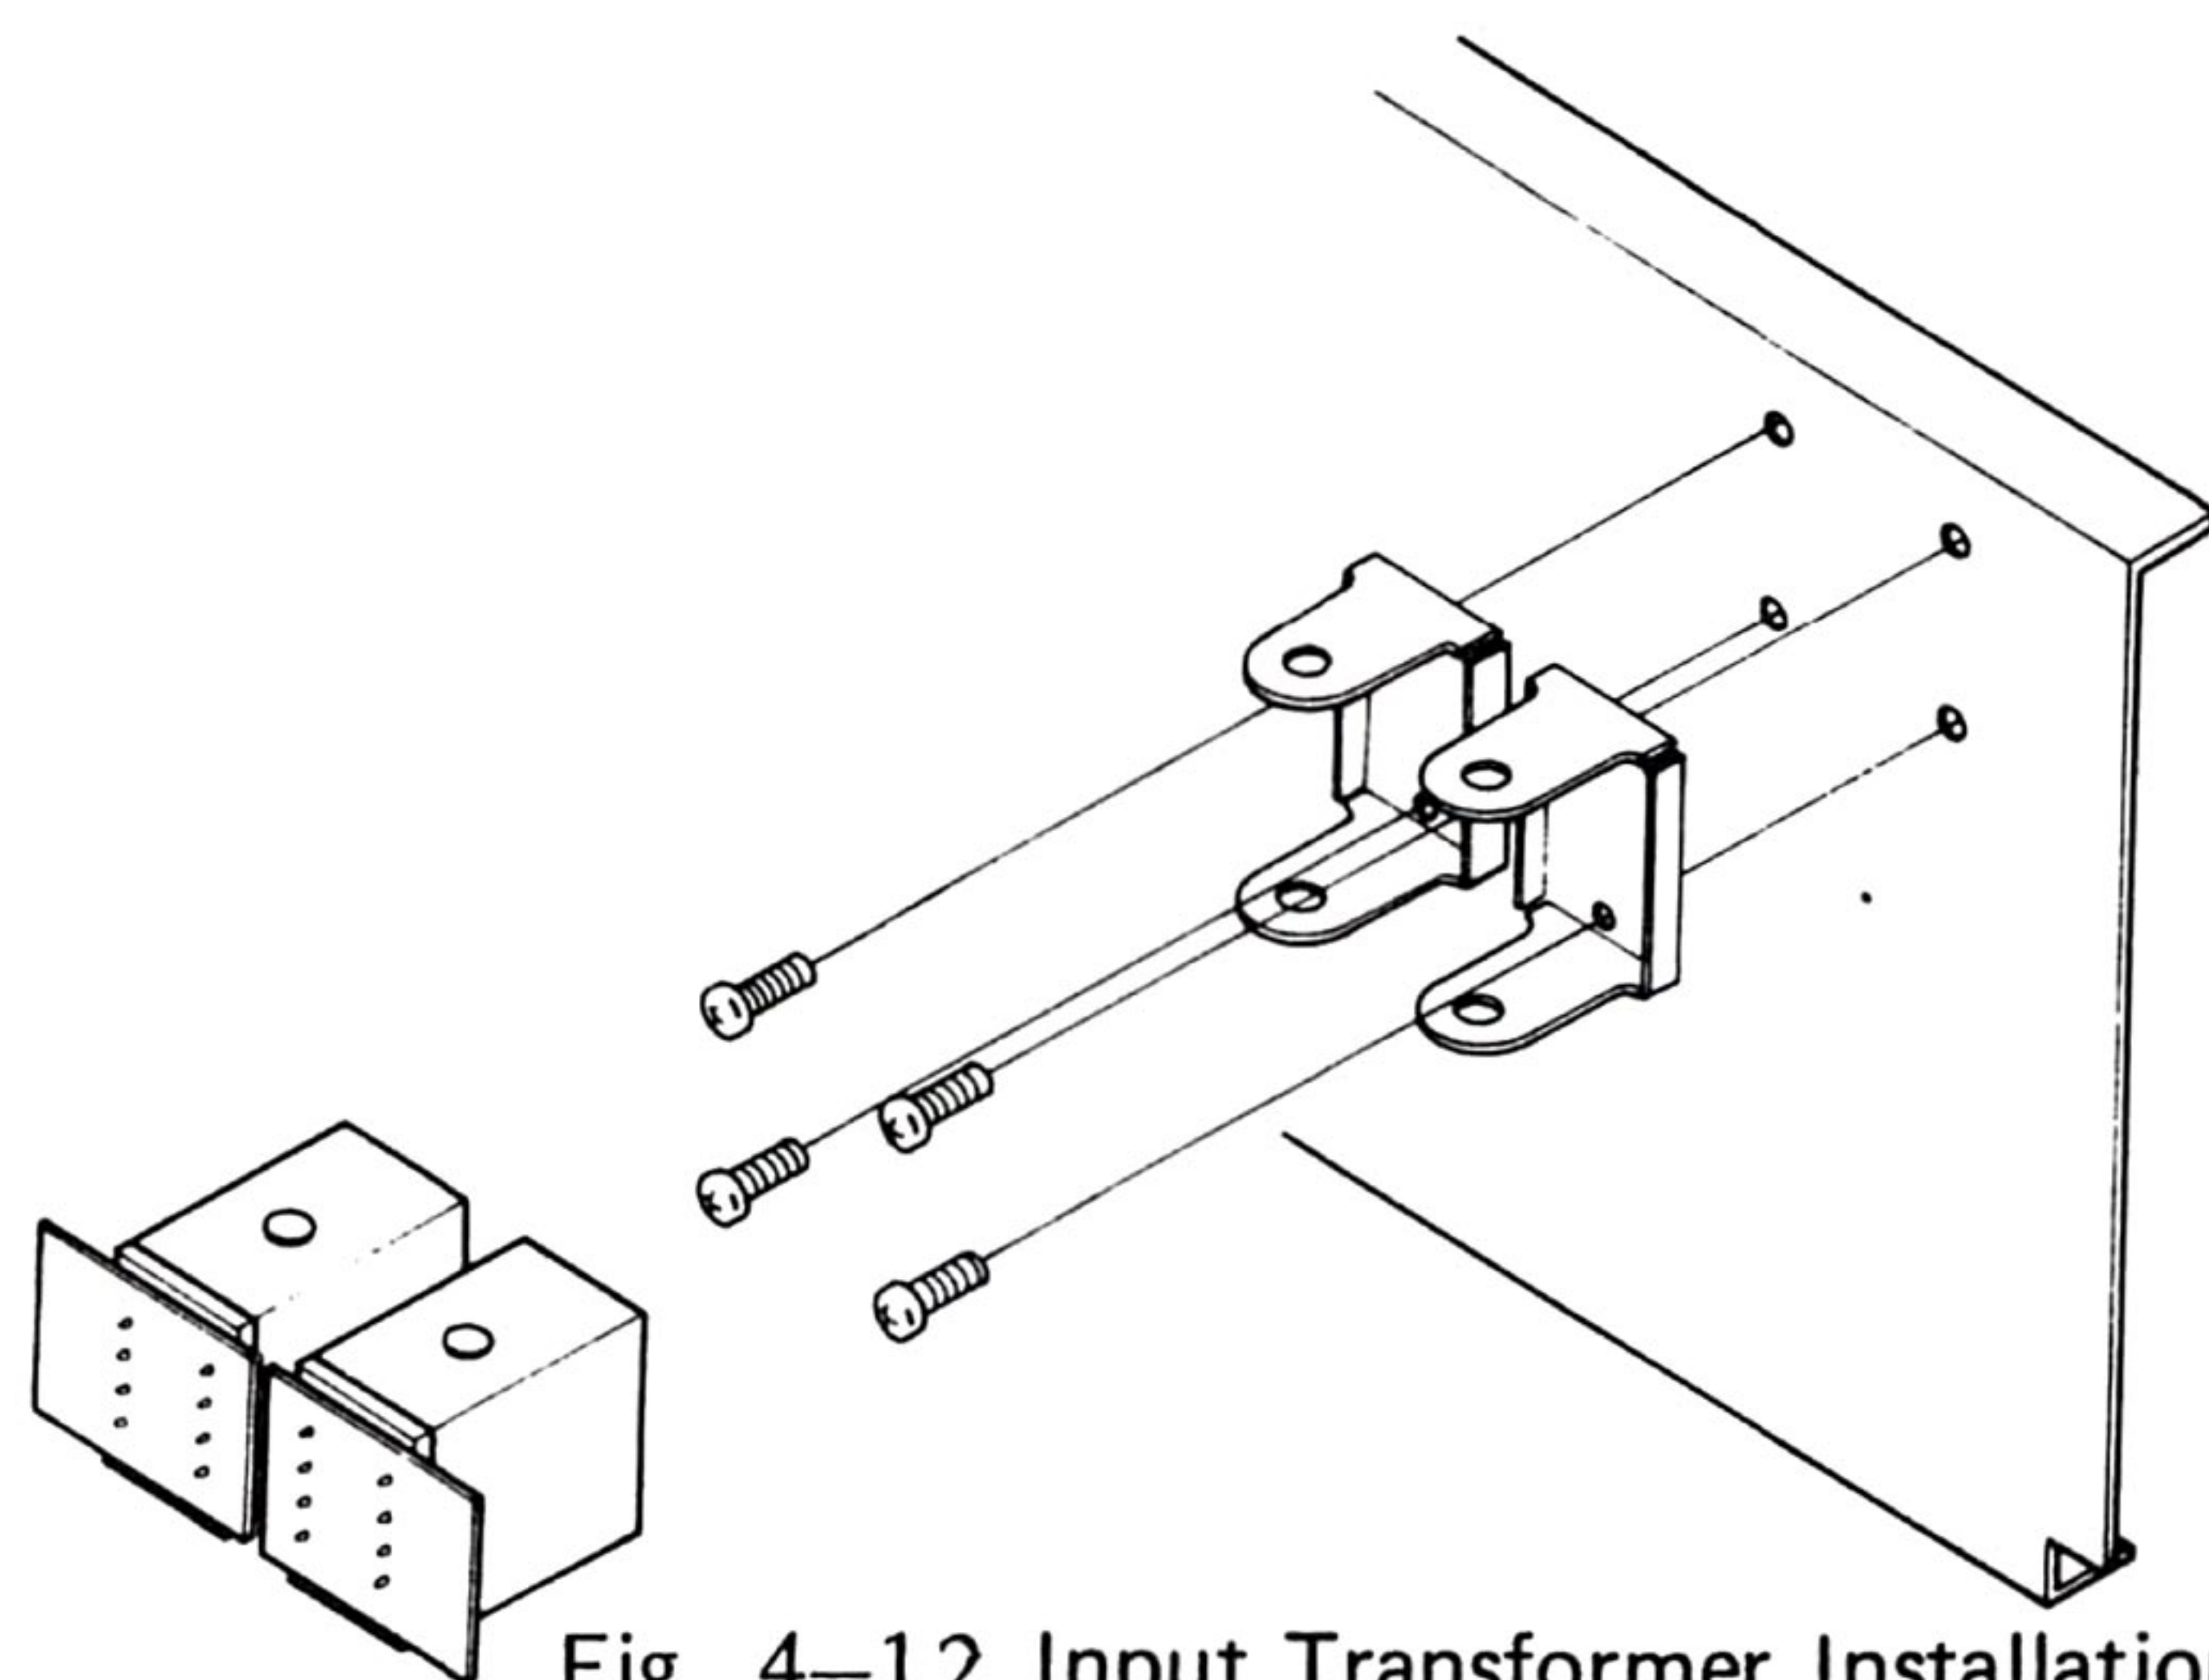

Fig. 4-12 Input Transformer Installation
1. Take out case rear board as shown in Fig. 2-1, and out Rear Panel. Then mount the transformer with two screws. (See Fig. 4-12)